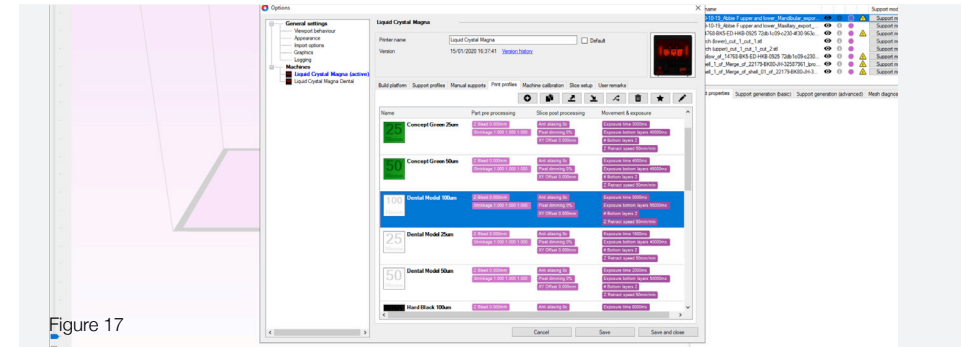

Figure 17
- Click 'File' then 'Configuration' and select 'Liquid Crystal Magna' in the machine tab. In 'Print Profiles' double click on 'Dental Model 100um' (figure 17).